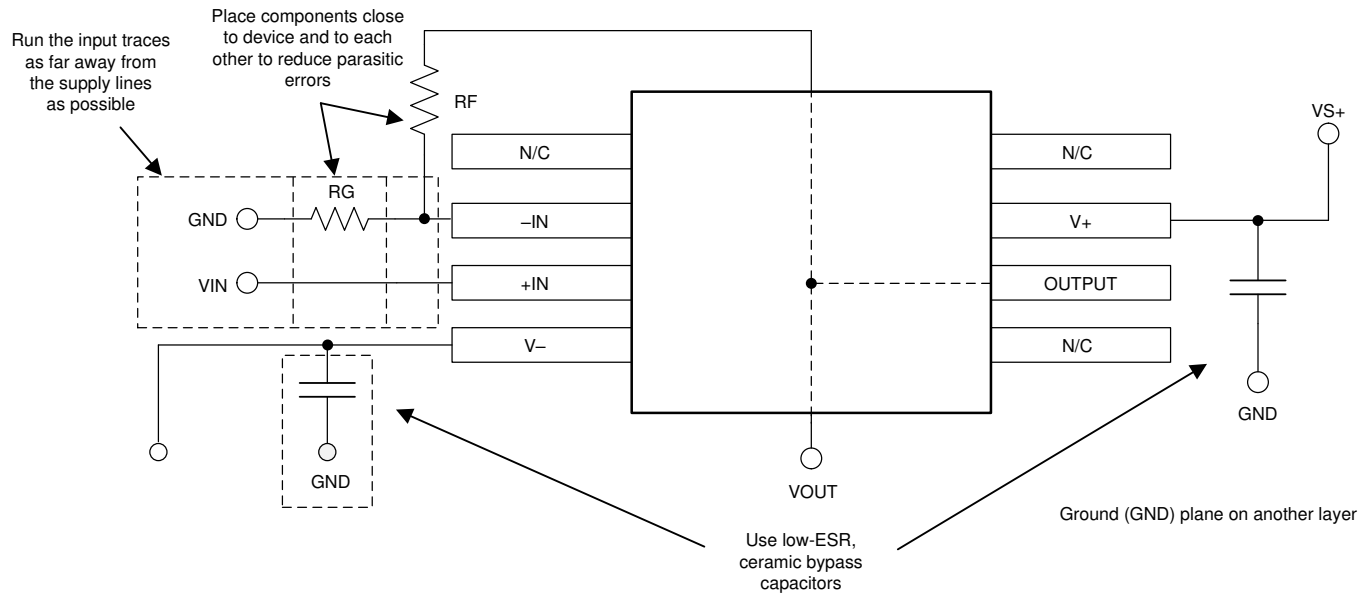

Figure 46. Operational Amplifier Board Layout for Noninverting Configuration
- Place the external components as close as possible to the device. As illustrated in Figure 46, keep RF and RG close to the inverting input minimizes parasitic capacitance.